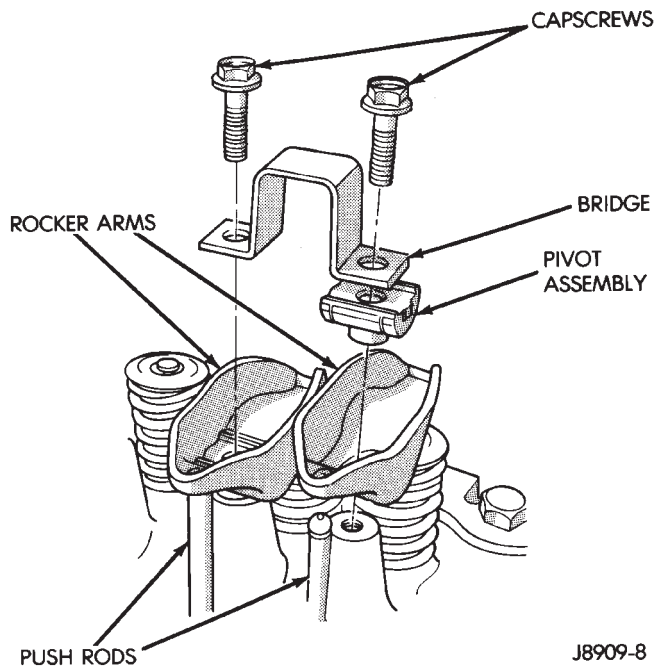

Fig. 2 Rocker Arm Assembly
- (1) Remove the engine cylinder head cover.
- (2) Remove the capscrews at each bridge and pivot assembly (Fig. 2). Alternately loosen the capscrews one turn at a time to avoid damaging the bridges.
(3) Check for rocker arm bridges which are causing misalignment of the rocker arm to valve tip area.
(4) Remove the bridges, pivots and corresponding pairs of rocker arms (Fig. 2). Place them on a bench in the same order as removed.
(5) Remove the push rods and place them on a bench in the same order as removed.
(2) Drain the coolant and disconnect the hoses at the engine thermostat housing. **DO NOT** waste reusable coolant. If the solution is clean and is being drained only to service the engine or cooling system, drain the coolant into a clean container for reuse.
(3) Remove the air cleaner assembly.
(4) Remove the engine cylinder head cover.
(5) Remove the capscrews, bridge and pivot assemblies and rocker arms (Fig. 2).
(6) Remove the push rods (Fig. 2). **Retain the push rods, bridges, pivots and rocker arms in the same order as removed.**
(7) Loosen the serpentine drive belt at the power steering pump, if equipped or at the idler pulley (refer to Group 7, Cooling System for the proper procedure).
(8) If equipped with air conditioning, perform the following: